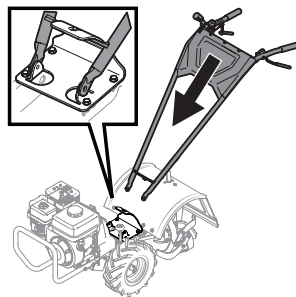

Figure 2
3. Gently lift the handlebar (do not overstretch the attached cables) and place the handlebar cross-brace in front of the curved height adjustment bracket. See Figure 2.
4. With the forward clutch cable on the inside of the handlebar, position the handlebar ends on the outside of the two mounting tabs atop the transmission cover. See inset in Figure 2.